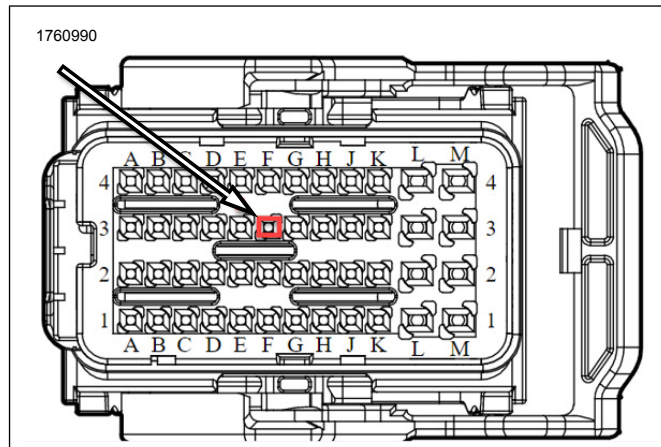

Figure 2. BCM Pin Location
4. See Figure 2. Install jumper terminal (Part No. 69203239) into cavity (F3) of the BCM connector.